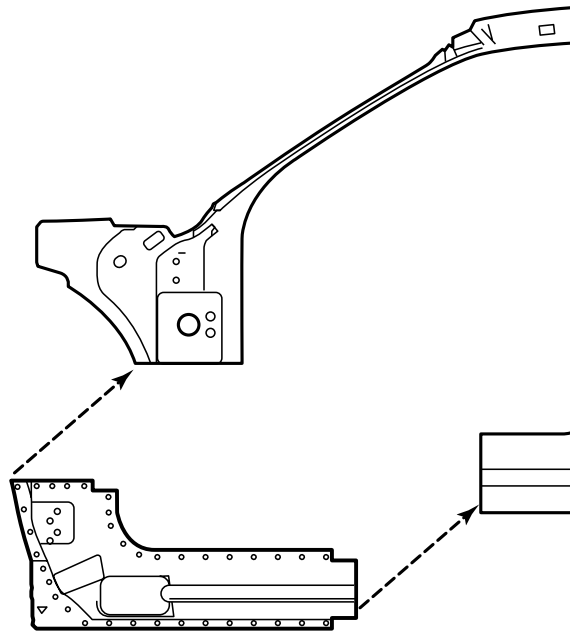

Fig. 1-14 — 2000 DeVille Inner Center Pillar Detail
3. Position part on vehicle and clamp in place. Measure and check for fit (Fig.1-14).